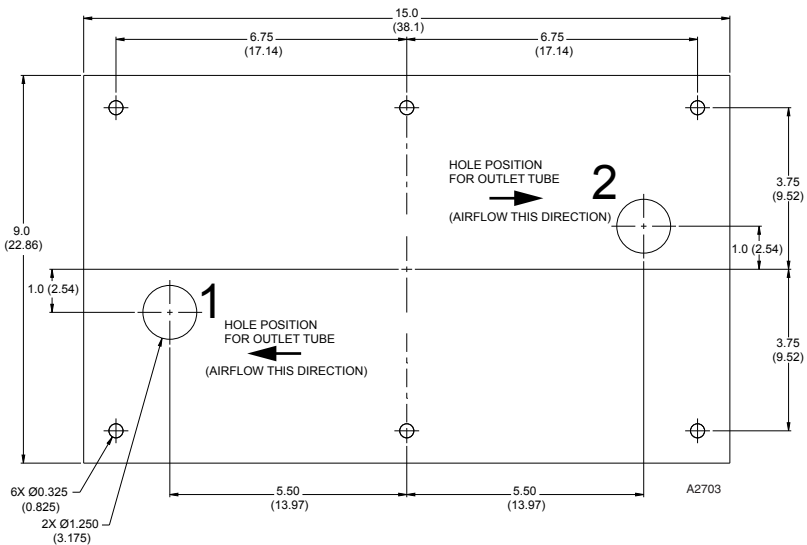

Figure 5—Q5016 Template dimensions in Inches (Centimeters)
3. Lay the fastening pattern template (Figure 5) onto the duct in a position to monitor the duct in a horizontal or vertical orientation. Ensure that there will be enough room to open the cover of the Q5016.